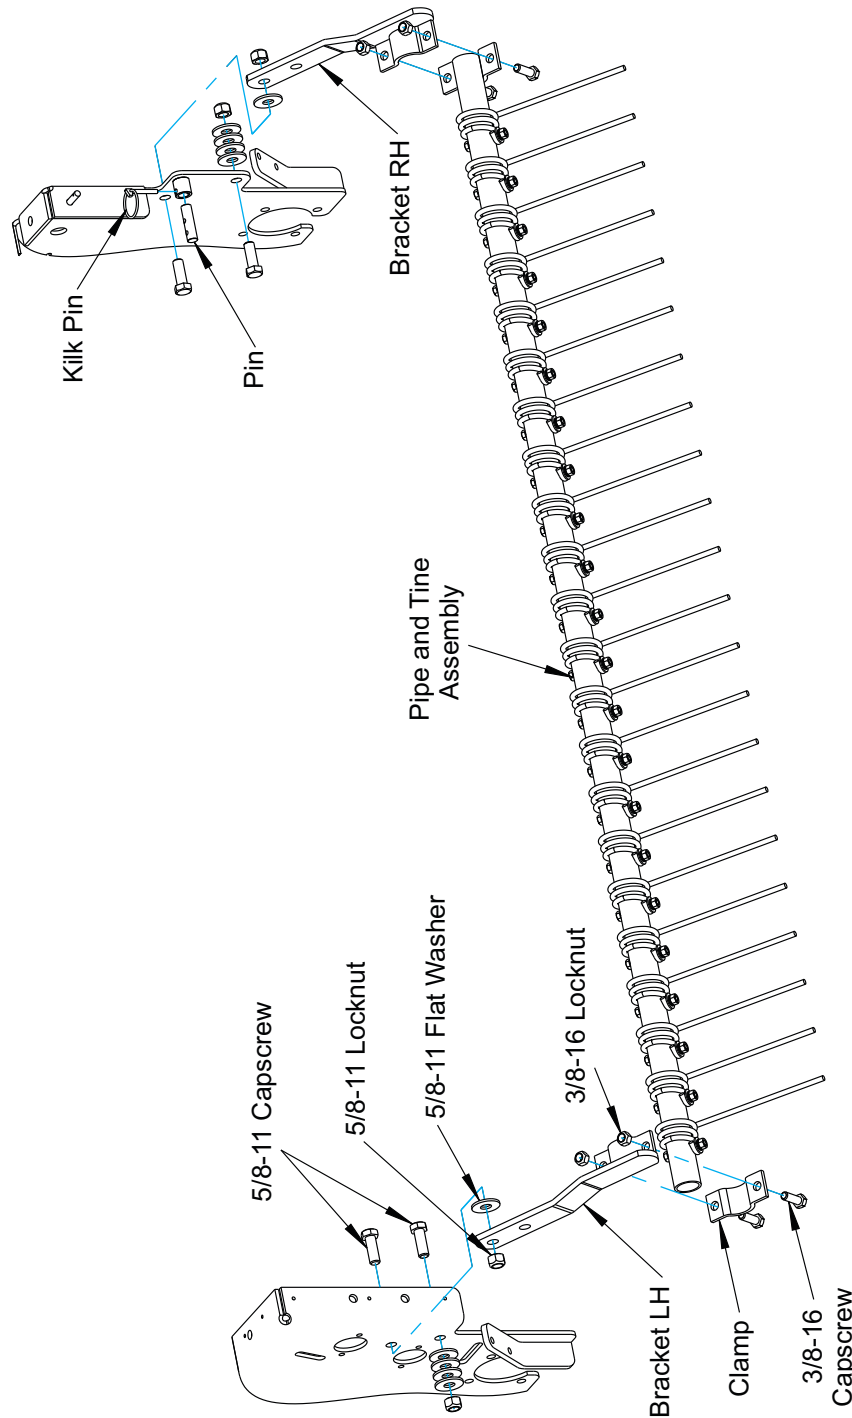

Figure 3-5: Coil Tine Setup
1. Install into each Frame End Plates lower $2\frac{1}{32}$ " hole a 5/8-11 x 1-3/4" Capscrew, four Flat Washers and Lock Nut. **See Figure 3-5.**